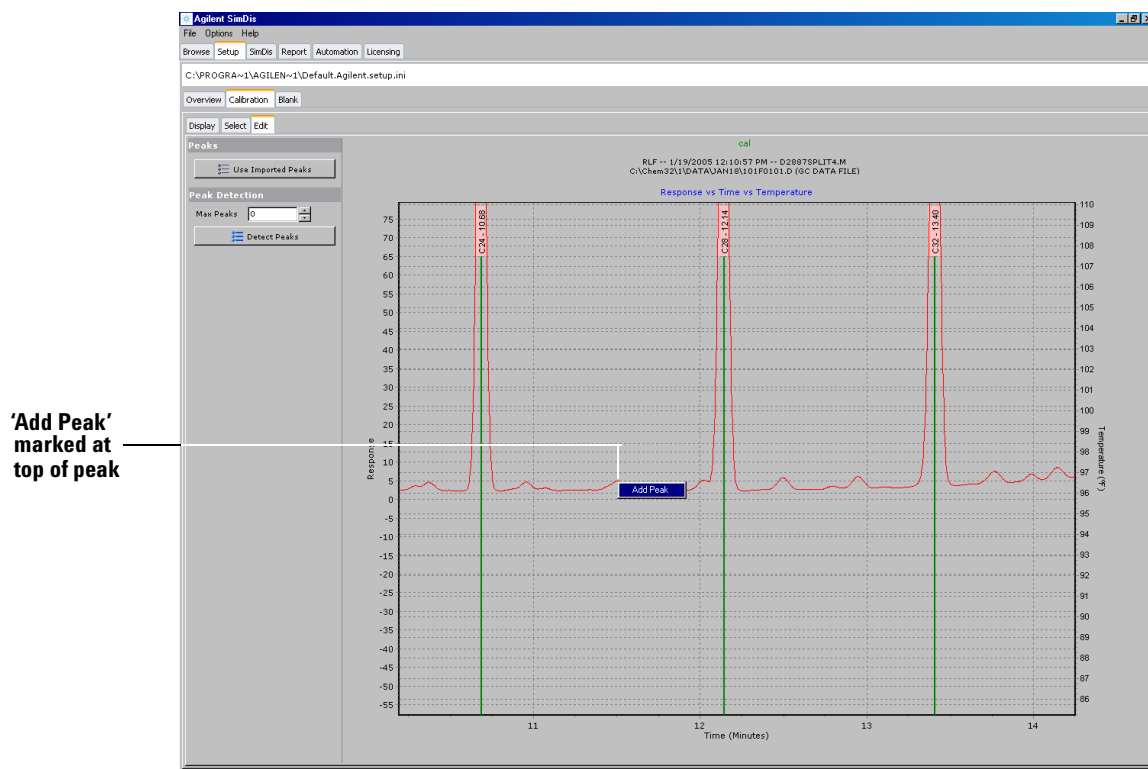

Figure 14 Marking the top of a component peak to be added
- 1 Zoom in on the region encompassing recognized component peaks “C24” (10.68 minutes) and “C28” (12.14 minutes) sufficiently to note the small peak at about 11.5 minutes (Figure 14).